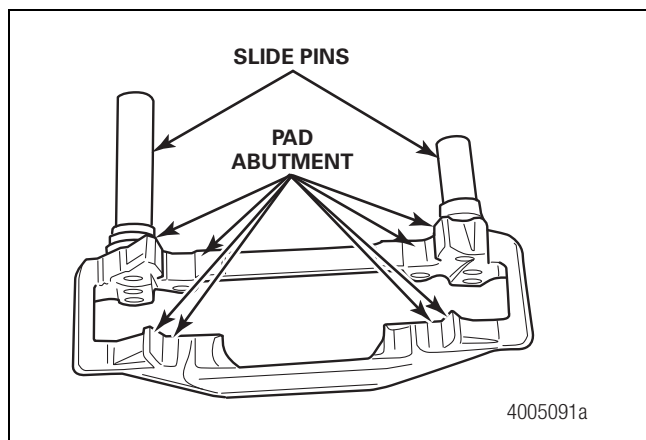

Figure 5.24
2. Clean and inspect the carrier for damage and wear. Pay particular attention to the pad abutment areas and slide pins. Figure 5.24.